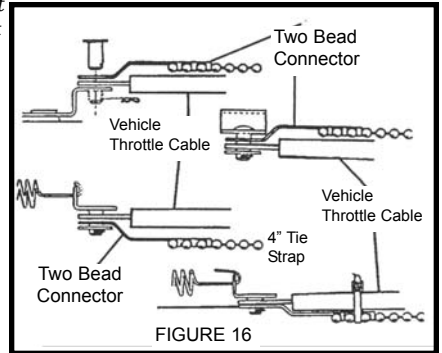

FIGURE 16
4. The **TWO BEAD CONNECTOR** may need to be bent so that it clears the throttle cable. **Figure 16** Use the **TIE STRAP (4")** to hold the **TWO BEAD CONNECTOR** to the sleeve of the throttle cable. **Figure 16**